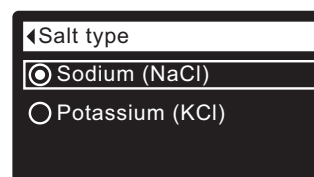

FIG. 39
5. Press the SELECT (O) button to display the Salt type menu (See Figure 39).
6. If the desired salt type already has a black dot next to it (See Figure 39), go to Step 7. Otherwise, press the conditioner's DOWN (▼) or UP (▲) buttons to scroll to the other salt type, then press SELECT (O) to choose it.
7. Press the SELECT (O) button. The display will go back to the Salt settings menu.